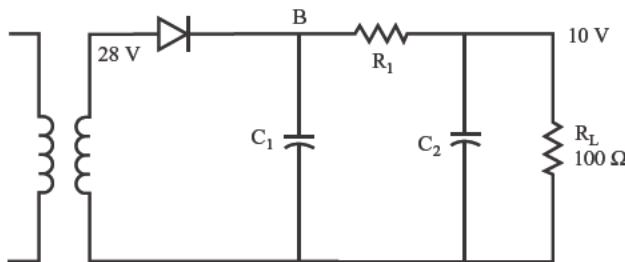

FIGURE 11.40
- 19** The output from the secondary coil of the circuit shown in Figure 11.40 is a $28 \text{ V}_{\text{rms}}$, 60 Hz sine wave. For this circuit, you need 10 volts DC across the 100-ohm load resistor.
- 20** Figure 11.41 shows the waveform after the diode has rectified the sine wave for the half-way rectifier circuit shown in Figure 11.40.
- 21** The average DC voltage at point B in the circuit shown in Figure 11.40 is approximately 90 percent of the peak value of the sine wave from the secondary coil, or $V_B = 0.9 \times 40 \text{ volts} = 36 \text{ volts}$. R_1 and R_L act as a voltage divider to reduce the 36-volt DC level to the required 10 volts DC at the output.